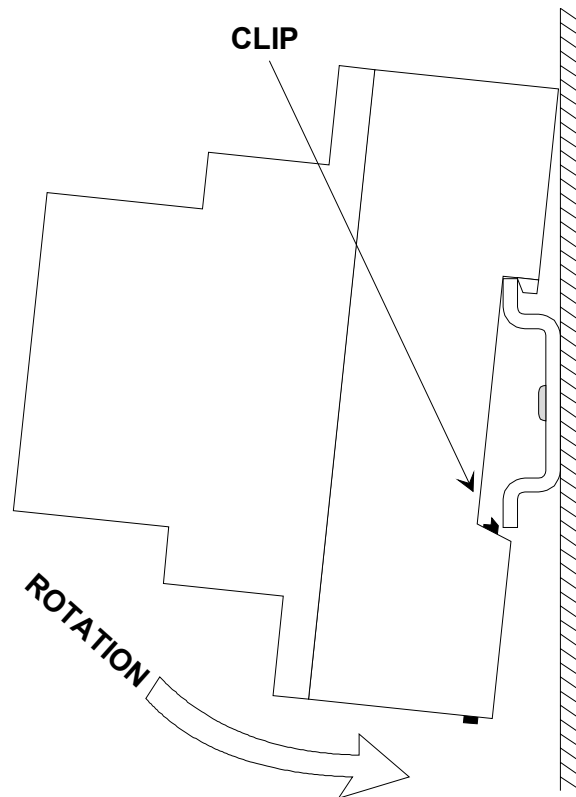

Figure 19. Mounting onto the DIN Rail
2. Push until it clips onto the rail. (See Figure 19).